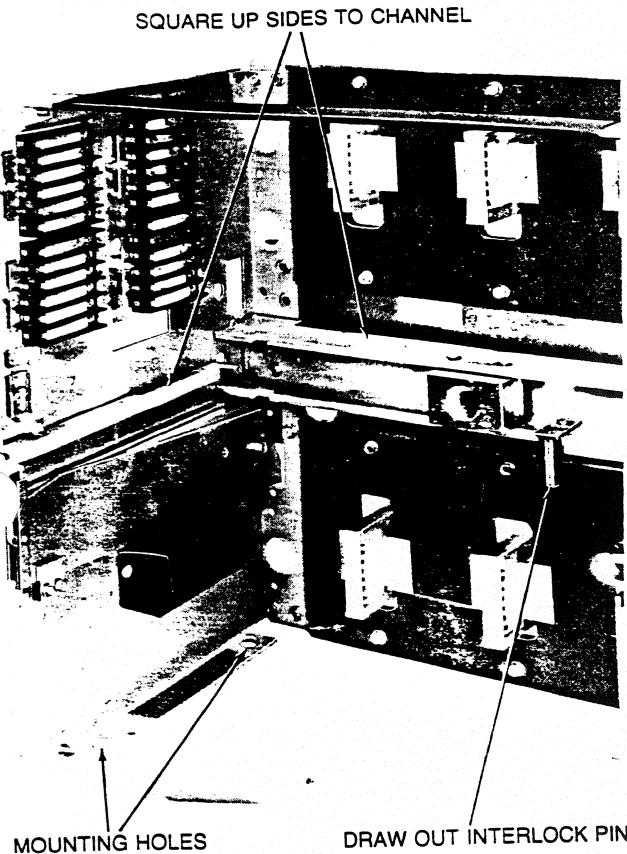
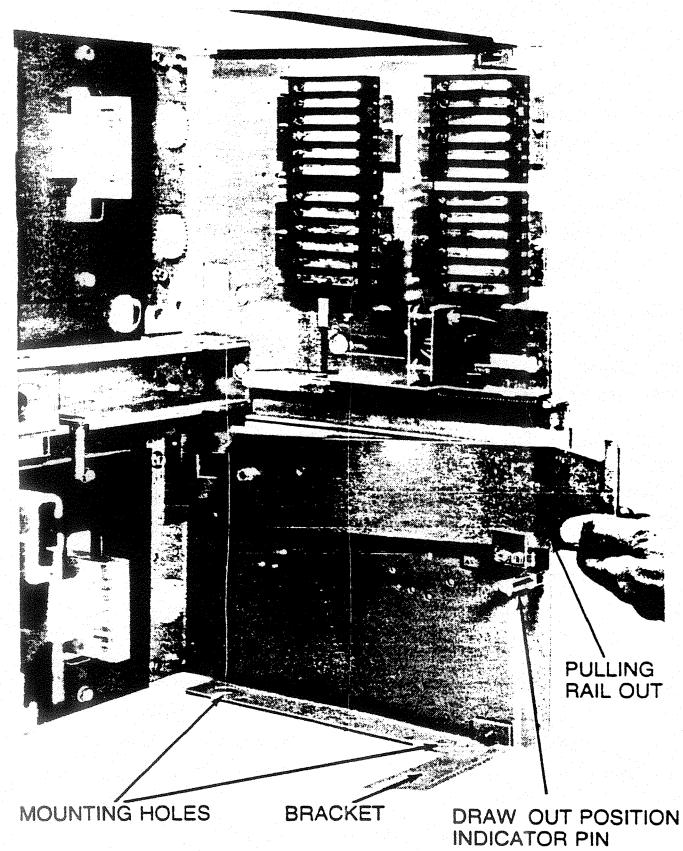

Figure 1
Figure 2
Place the substructure unit on a rigid, leveled shelf or appropriate support. Install (4) 1/2" bolts, nuts, and lock washers through the mounting holes shown in Fig. 2 but do not tighten. Check the squareness relationship of the substructure sides relative to the back plane, (see Fig. 1). Square up and then tighten the mounting bolts on each side to a torque of 35 to 40 foot-pounds. Connect the bus work or terminal lugs to the primary receivers using the holes provided. Use 1/2" grade 5 bolts, Belleville washers and nuts, and torque bolts to 35-40 foot-pounds.
**INCORRECT BREAKER REJECTION FEATURE:** A rejection feature is provided to permit installation of only the correct breaker. A label located on the lower bracket (see Fig. 2) lists appropriate breakers for each enclosure.
**DRAW-OUT INTERLOCK PIN:** (Fig. 1) Interacts with the breaker so that if the breaker racking shaft wrench lock-out is deliberately defeated, a closed breaker will trip before the primary contacts engage on installation, or disengage on breaker removal.
**DRAW-OUT POSITION INDICATOR PIN:** (Fig. 2) Actuates a compartment position indicator on the breaker.